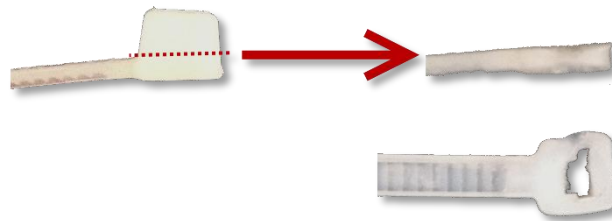

Figure 19: Required cut for zip-tie
4. Cut a zip-tie's receiving end so that the thickness is constant along the entire zip-tie. Sidecutters work best for this operation; fine adjustments can be made with a hobby knife when necessary. The cut is illustrated in Figure 19. This end of the zip-tie will serve as the stopper at the tip of the finger.
Sidecutters work best for this operation; fine adjustments can be made with a hobby knife when necessary. The cut is illustrated in Figure 19. This end of the zip-tie will serve as the stopper at the tip of the finger.